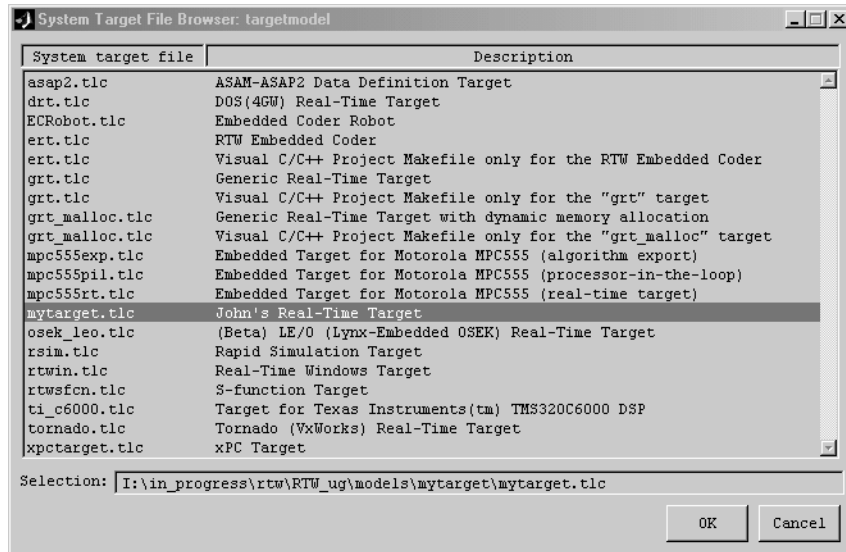

Figure 14-4: Custom System Target File Displayed in Browser
- 4 When the System Target File Browser opens, Real-Time Workshop detects system target files that are on the MATLAB path, and displays the target filenames and target description comments. Figure 14-4 shows how the target file `mytarget.tlc`, which contains the browser comments above, appears in the System Target File Browser.